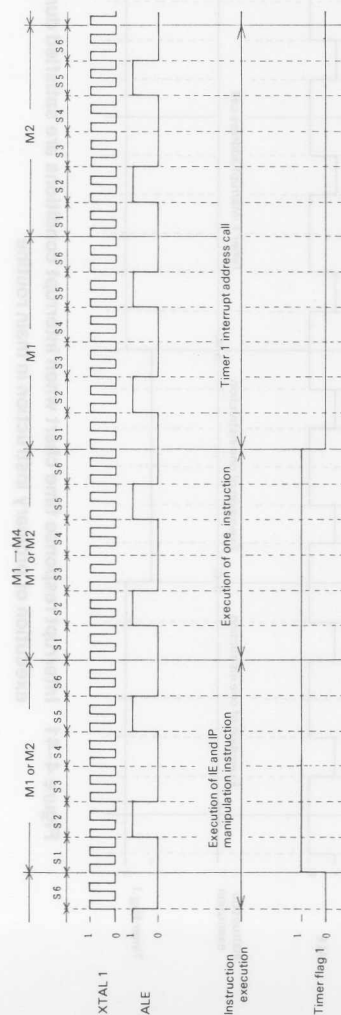

Figure 4-42 Interrupt response time chart when interrupt conditions are satisfied during execution of IE or IP register manipulating instruction in main routine
If interrupt conditions are satisfied during execution of an instruction used to manipulate the interrupt enable register (IE) or the interrupt priority register (IP) in the main routine, the MSM80C31/MSM80C51 reactivates the interrupt mask circuit in the next cycle following completion of the register manipulation instruction. If interrupt conditions are met as a result of the re-interrupt mask, the interrupt address is called in the next cycle. That is, if the interrupt conditions are satisfied during execution of the IE or the IP manipulating instruction, the interrupt address is called after the next instruction following the register manipulating instruction is executed. The time chart is given in Figure 4-42.